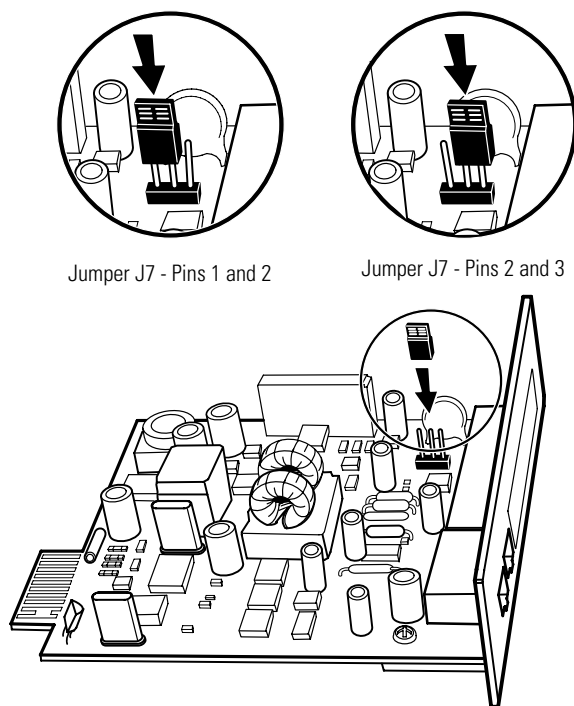

Figure 42. Setting the CAN Bridge Card Jumper J7 (Side View)
5. Set the jumper pins on the Powerware Hot Sync CAN Bridge Card according to the parallel configuration (see Figure 42):